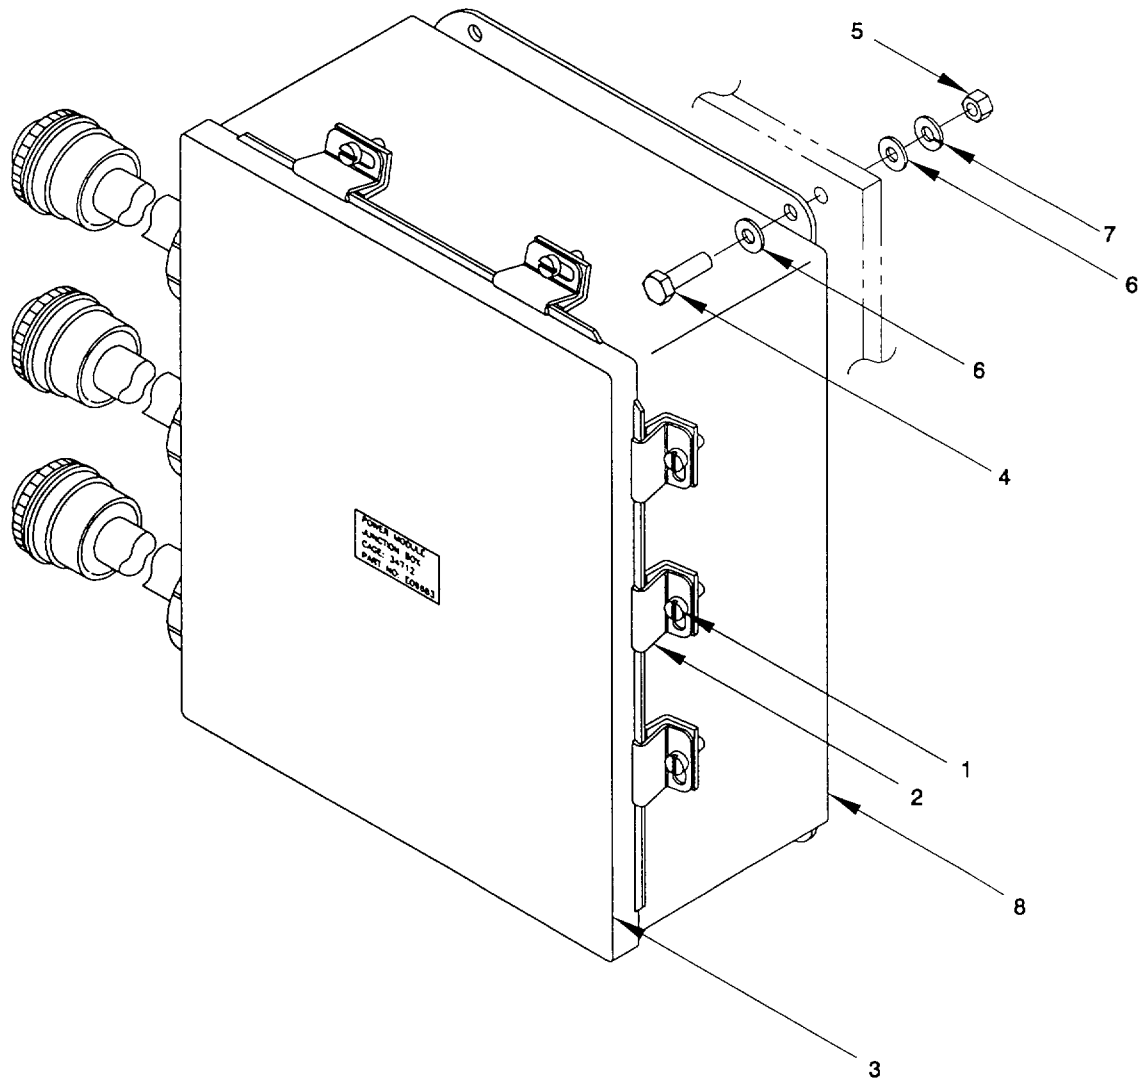

Figure 2-59. Power Module Junction Box "A3", Remove/Install
a. *Remove.* (figure 2-59)
- (1) Remove seven screws (1) and seven clamps (2) securing cover (3) to enclosure (8). Swing cover (3) open.
- (2) Disconnect and tag electrical wiring to junction box. Refer to Appendix G.
- (3) Remove four hex head capscrews (4), four hex nuts (5), eight flat washers (6) and four lock washers (7) securing enclosure (8). Remove junction box.
b. *Install.* (figure 2-59)
- (1) Apply antiseize compound to capscrews (4) and screws (1).
- (2) Position new junction box and secure with four hex head capscrews (4), eight flat washers (6), four lock washers (7) and four hex nuts (5).
- (3) Reconnect electrical wiring, as tagged, to junction box. Refer to Appendix G.
- (4) Close cover (3) and secure with seven clamps (2) and seven screws (1).